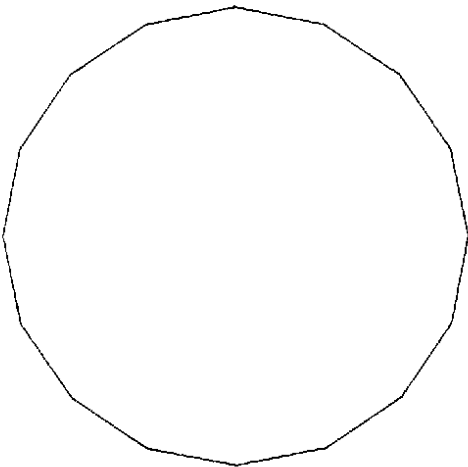

Figure 6-8. Arc Tolerance of 8 Plotter Units
**Result**      Draws a circle with an arc tolerance of 8 plotter units which uses 16 chords. Notice that the radius parameter used is the last one the plotter received (see Figure 6-8). The plot made by the instruction is shown in Detail C, Figure 6-22.